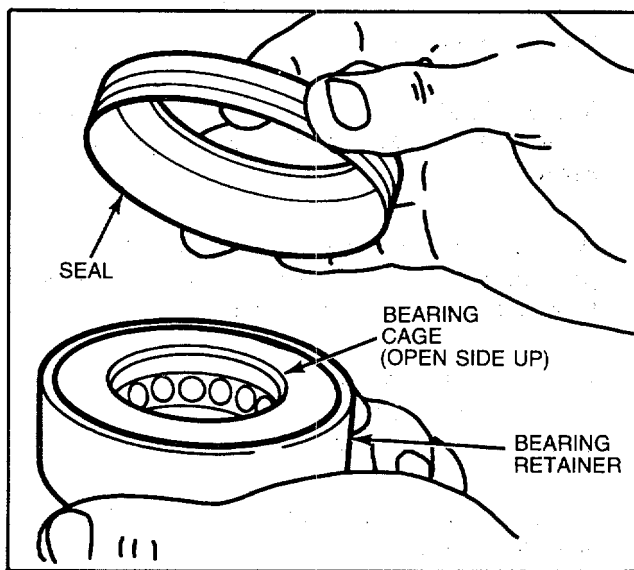

Figure 26
- Hold thrust bearing with the opening between the bearing cage and the retainer up. Then snap the seal securely over the opening (Figure 26).